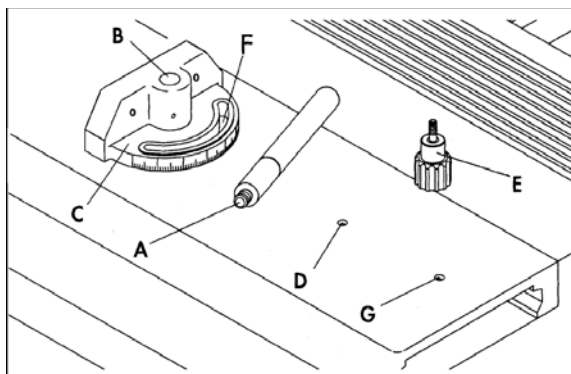

Figure 10
1. Insert post (A, Figure 10) of the clamp assembly down through hole (B, Figure 10) of the miter gauge body (C, Figure 10), and thread post (A, Figure 10) into hole (D, Figure 10) of sliding table.
2. Insert shaft of locking handle (E, Figure 10) down through opening (F, Figure 10) of miter gauge and thread shaft into hole (G, Figure 10) of sliding table.